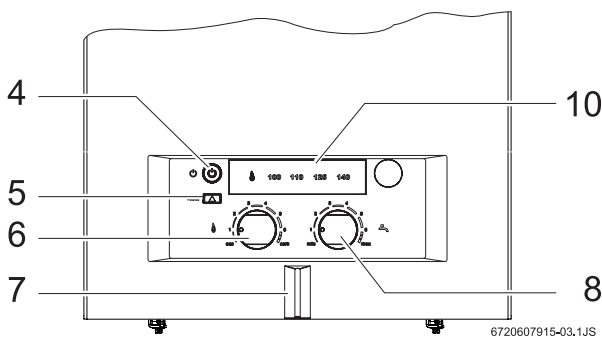

Fig. 25
- ▶ **2.** The gas valve must be shut off by putting the ON/OFF switch to position OFF. Wait five (5) minutes to clear out any gas. If you smell gas, STOP! Follow "B" in the safety information above. If you do not smell gas, go to the next step.
NOTE: upon installation or after gas line work has been done, air in the gas line may cause a lockout error. Reset the unit (Fig. 25, pos. 52). The water heater will reattempt ignition.
- ▶ press the ON/OFF button. LED (fig. 25) goes orange. When the burner is working, the LED display shows the symbol .